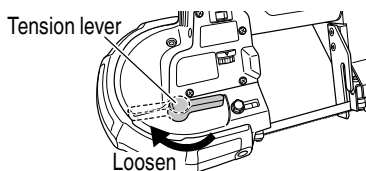

Fig. 16
- (1) Loosen the tension lever in the direction indicated in the figure. (Fig. 16)
- (2) Remove the band saw blade first from pulley guard (C) (① in the figure), then from blade pulley (A) and blade pulley (B), and lastly from the guide rollers section (② in the figure) to remove it completely.